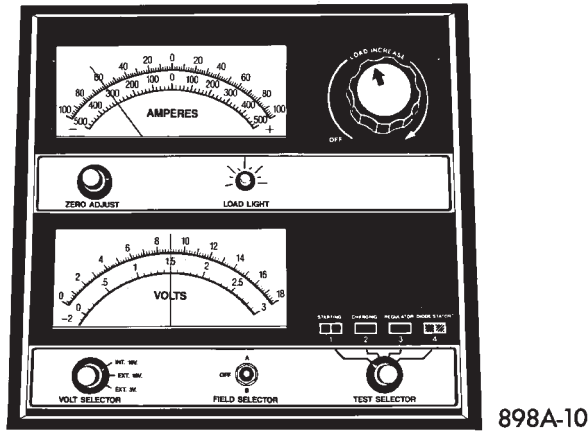

Fig. 7 Remove Surface Charge from Battery
- (3) Rotate the load control knob of the carbon pile rheostat to apply a 260 amp load. Apply this load for 15 seconds to remove the surface charge from the battery, and return the control knob to off (Fig. 7).
- (4) Allow the battery to stabilize for two minutes, and then verify open circuit voltage.